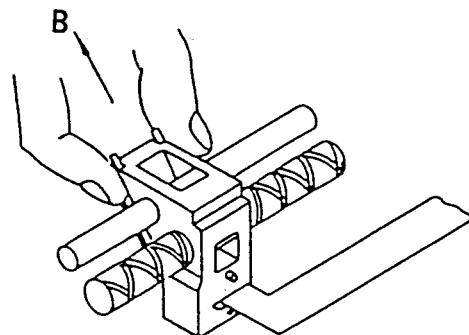

Figure 8-14 Pulling Out the Head Unit
④ Holding both sides of the head unit with your fingers, pull out the head unit in the direction shown by arrow B (see Figure 8-14).